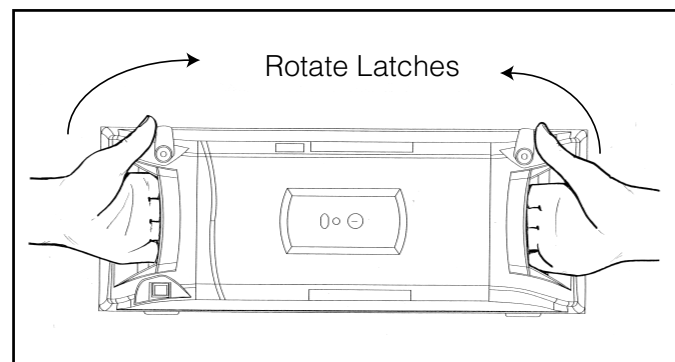

Figure 29 Rotating Door Latches
4. Rotate the two latches and remove the door as shown in Figure 29. Place the door in a secure location.